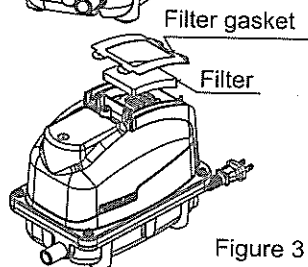

Figure 3
④ Remove the filter from the upper housing and replace it with a new or clean one. (Figure 3)